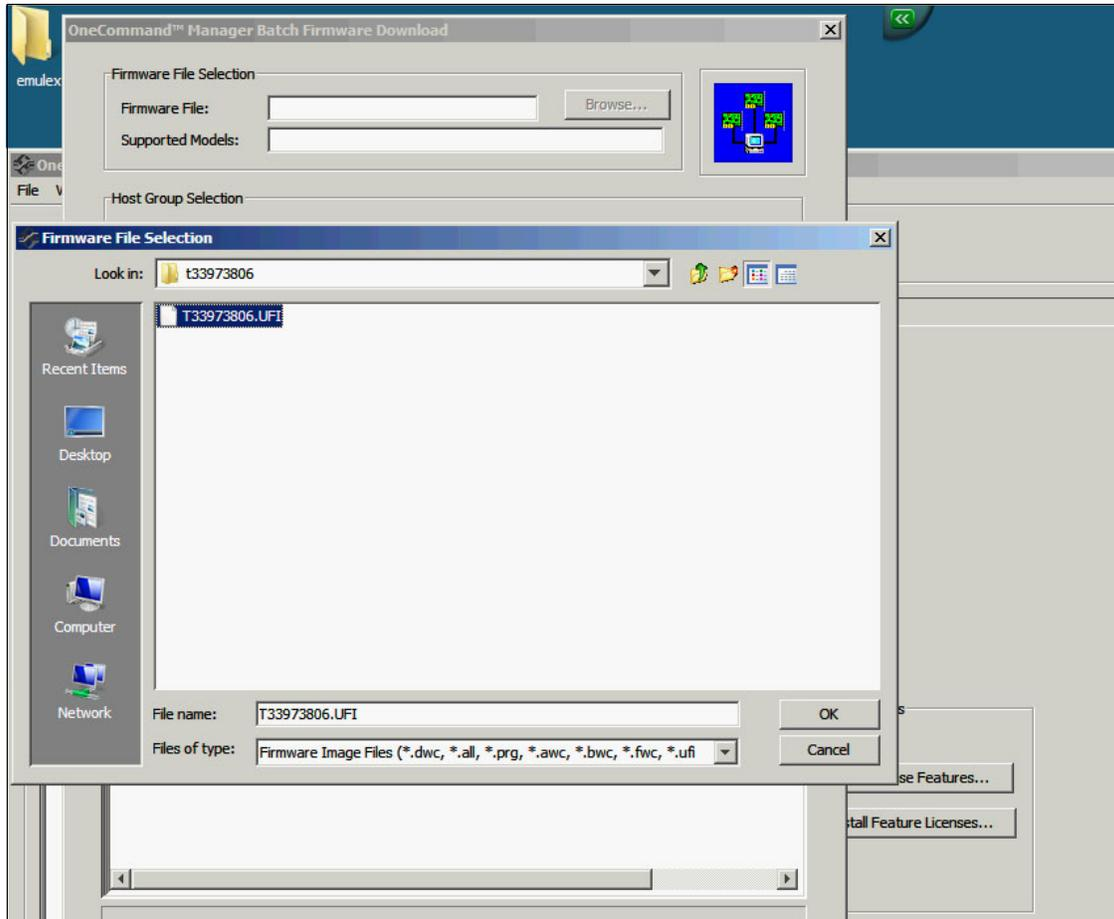

Figure 10-129 Firmware File Section window
- a. In the OneCommand Manager Batch Firmware Download window (Figure 10-129), click **Browse**.
- b. In the Firmware File Selection window (Figure 10-129), select the **xxx.UFI** update file. For this example, we selected the **T33973806.UFI** file. Click **OK**.